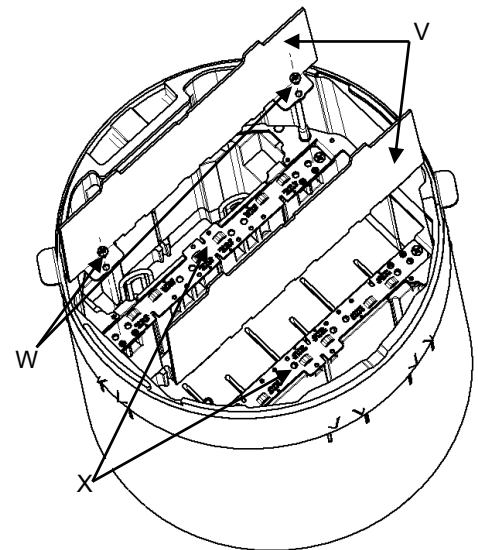

Fig. 9
2. Install FF divider (V) onto bracket (X) using the screws (W) provided, noting orientation of FF divider (V) as shown in Fig. 9.
3. Torque the supplied mounting screws (W) to 6-8 in-lbs (0,7-0,9 Nm).
4. Repeat steps 2-3 to install the second FF divider (V). Both FF dividers (V) must be installed for FF cover applications.